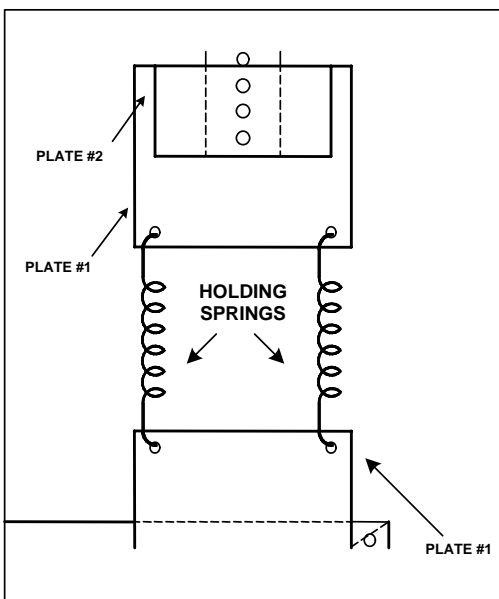

Figure 1-14
- Pull the bottom support bracket plate #1 down and secure it to the bottom support bracket. Verify the springs are approx. 1.5 times their original lengths, move the bottom support bracket if required [See Figure 1-14.]